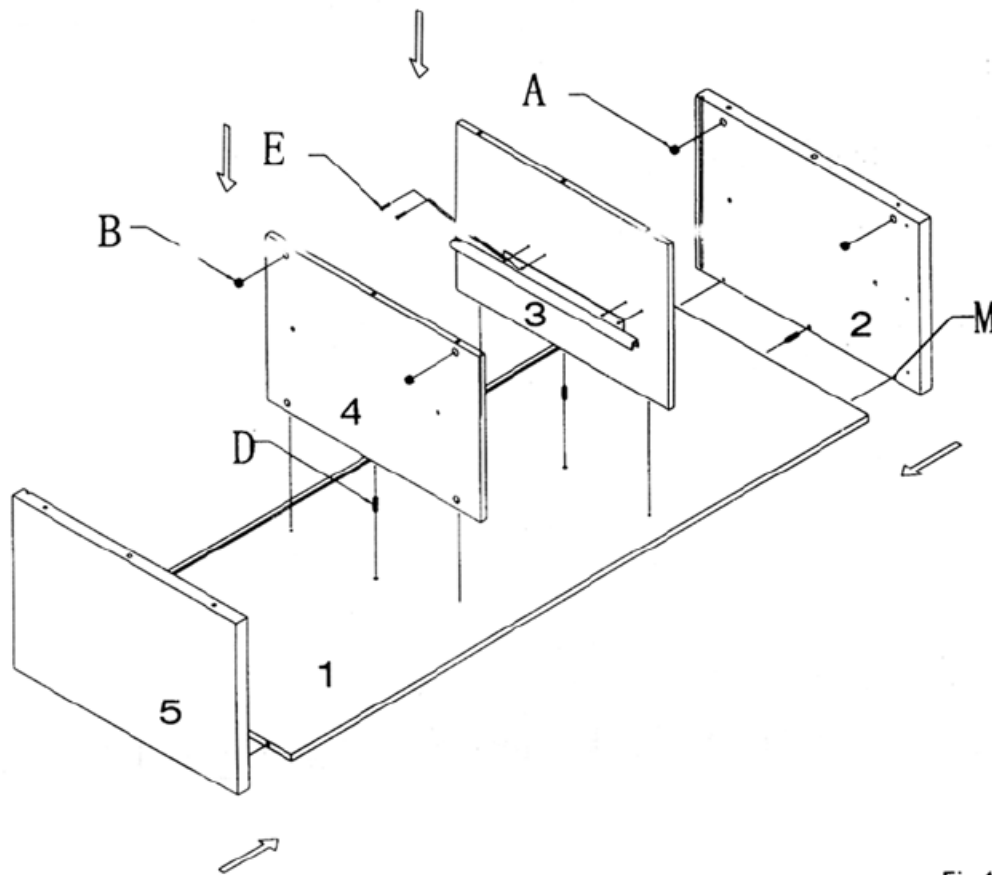

Fig.1
1. TO AVOID DAMAGE TO THE WOOD FINISH, CAREFULLY PLACE the bottom panel (1) flat on a clean, soft surface so that the side with the holes at the 4 corners is facing up, and with the long grooved edge facing up and at rear.
2. PLACE the right side panel (2) upright and next to the right edge of the bottom panel with the short grooved side vertical, the three holes in the edge facing upwards, and the holes on the side of the panel facing towards the inside of the cabinet when fully assembled, as shown in Fig. 1.
- 3 INSERT two shelf support pins (G), into the two holes in the center of panel (2) and tighten using the supplied Phillips driver (L). DO NOT OVERTIGHTEN.
4. TURN the bottom panel (1) on its side with the grooved edge facing down.
5. PLACE a small drop of wood glue on the wood dowel. CAREFULLY JOIN the side panel (2) to the bottom panel (1) by INSERTING the pins along the lower inside of panel (2) into the three holes located along the right edge of panel (1).
6. REPEAT the assembly as above for the left side panel (5).
8. PLACE the interior panels (3) and (4) onto the flat side of the panel (1) as shown in Fig. 1. making sure that the sides with the shelf glides face the center of the unit. Using the Phillips tool (L), TIGHTEN the two cam locks at the bottom of the panels (3) and (4) by turning turn clockwise to attach the panels together. DO NOT OVERTIGHTEN.